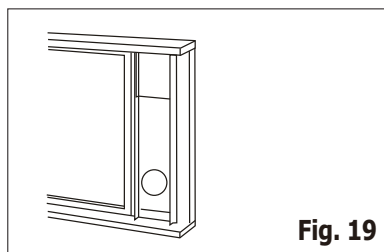

Fig. 19
4. Close the sliding sash securely against the window slider kit. (Fig. 19)